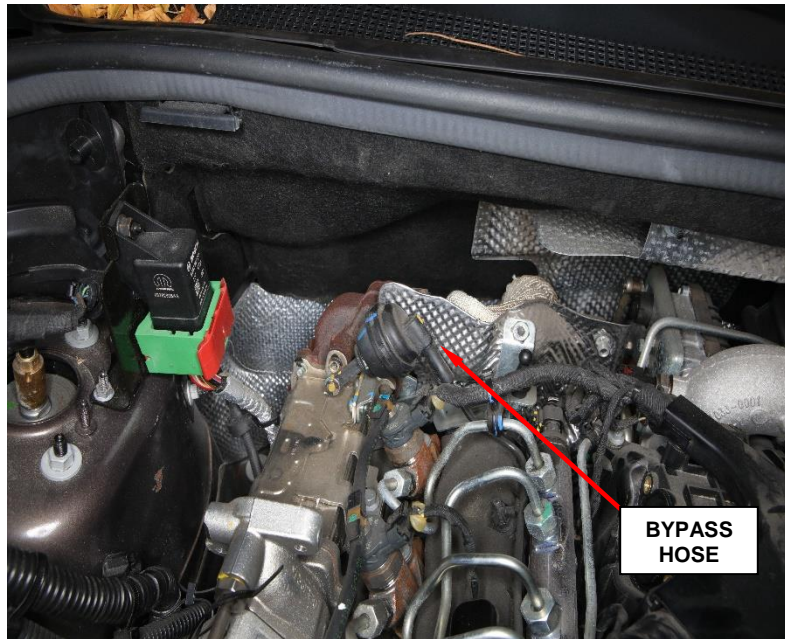

Figure 34 – Vacuum Bypass Hose
15. Disconnect the EGR cooler vacuum bypass hose (Figure 34).
26. Connect the EGR cooler vacuum bypass hose (Figure 34).